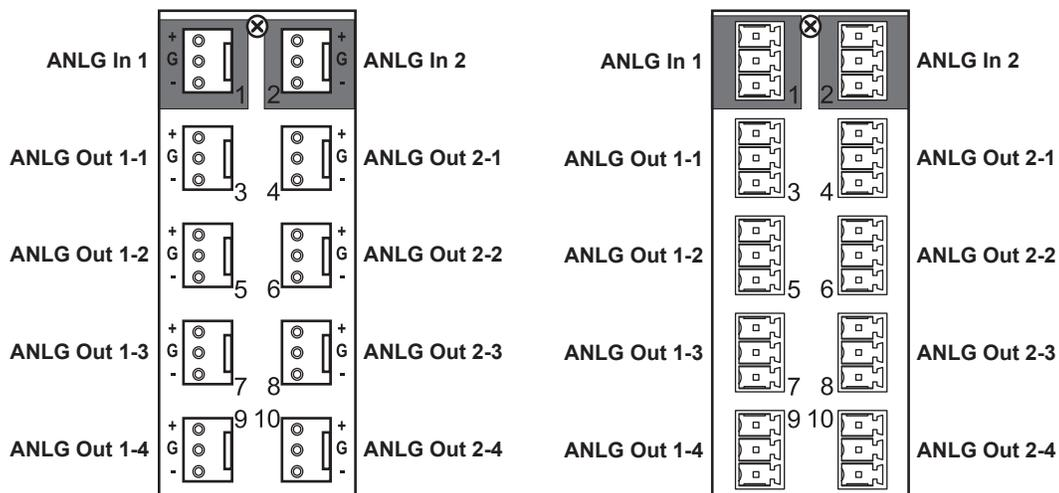

Figure 6 Cable Connections for the 8310AR-042 and 8320AR-042 Rear Modules Figure 7 Cable Connections for the 8320AR-042A Rear Module
In the DFR-8310 series frames, each 8310AR-042 rear module occupies one slot and accommodates one card. This rear module provides two analog inputs, and eight analog outputs. See **Figure 6**.
- 8320AR-042 — Each module occupies two slots and accommodates one card. This rear module provides two analog inputs and eight analog outputs. See **Figure 6**.